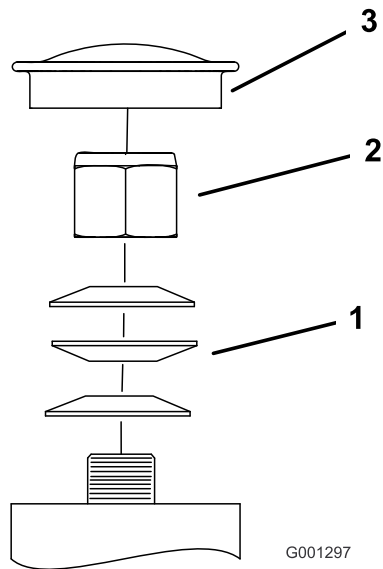

Figure 64
3. Remove the dust cap from caster and tighten lock nut (Figure 64).
4. Tighten the locknut until the spring washers are flat and then back off a 1/4 turn to properly set the pre-load on the bearings (Figure 64).
5. Install the dust cap (Figure 64).
Important: Make sure the spring washers are installed correctly as shown in Figure 64.